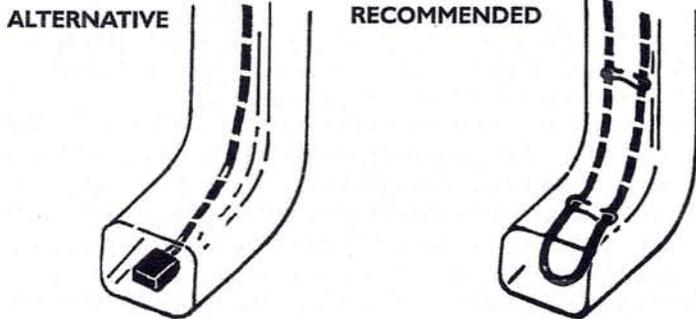

Figure 22. Cable in “end of run” downspouts
**Consider cable shortage or excess.** Consider how you will handle any excess or slight shortage of cable. For excess cable, triangles can be made larger (up to 20 feet in height) or cable loops in valleys can be extended. For slight shortages, triangles can be made smaller in areas less sensitive to ice dams. Alternatively, if a downspout is present at the end of the roofline being treated, cable may be routed in a single run down, or as recommended run down and back up. In either scenario the cable must terminate at the end of the downspout. See figure 22.
Pull cable into downspouts using weighted string. Be sure the run of cable is flush with the end of the downspout and that no cable is extended out the end of the downspout (see Figure 22). Remember: to avoid overheating the cable and increasing the risk of fire or electric shock, no part of the downspout may pass through a building.
If you have a shortage of cable (the end of the cable does not reach to the bottom of the downspout), you may reduce the height of the triangles on areas of the roof that are less susceptible to ice dams. It is permissible in this scenario to only have a single run of cable in the end downspout, termination at the end as shown in fig 22.